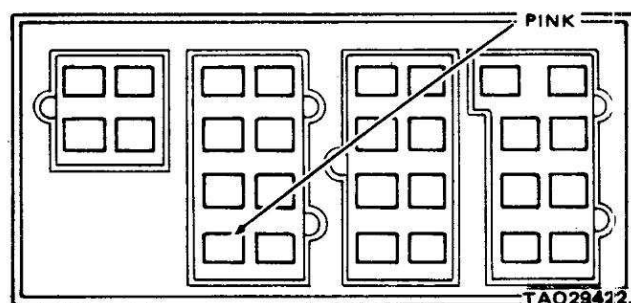

Figure 2-32. Bulkhead Connector (Pink Wire).
(11) While an assistant cranks the engine, check for voltage where the pink wire comes out of the firewall bulkhead connector (figure 2-32). This can be done without disconnecting the connector by pushing the red test lead in from the back of the connector.